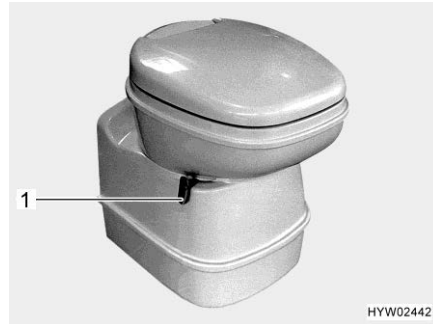
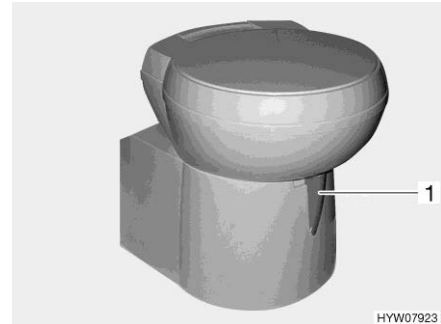

Fig. 206 Thetford toilet bowl, swiveling
Fig. 207 Thetford toilet bowl, swiveling (alternative)
- Before flushing open the sliding trap of the Thetford toilet. To do this, push the slide lever (Fig. 206,1 or Fig. 207,1) in an anticlockwise direction.